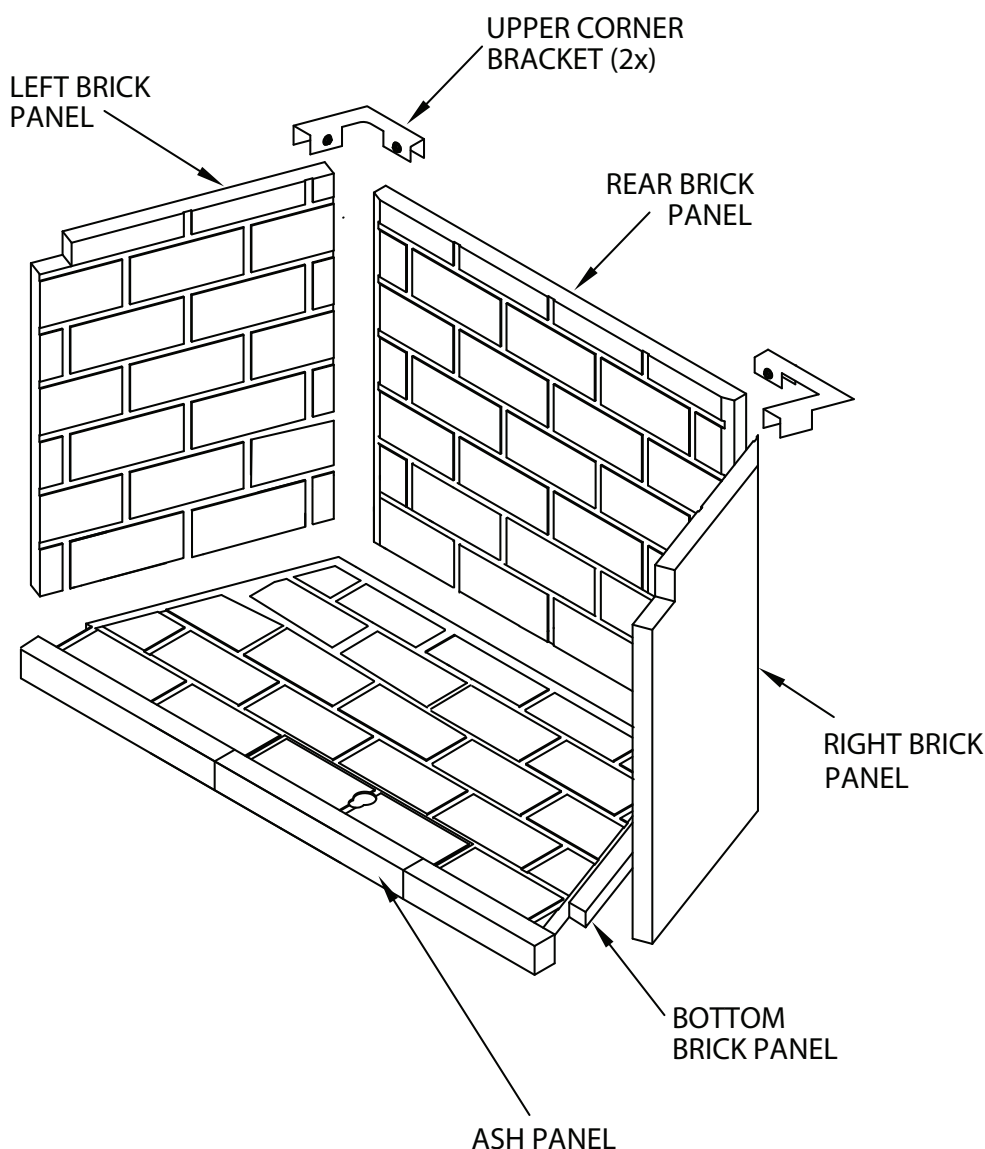

Figure 13 - Installing Refractory Panels
5. Install the upper corner brackets and tighten set screws (**Figure 13**).